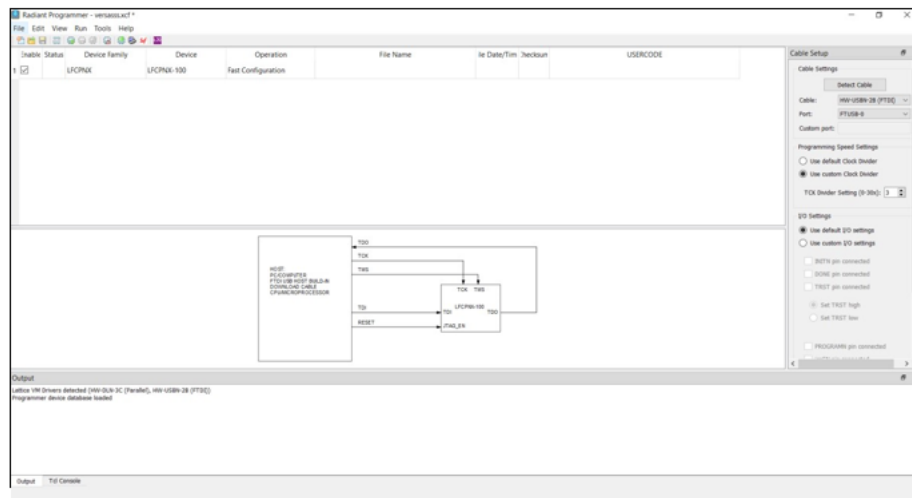

Figure 7 Radiant Programmer Opened from Windows Start Menu
5. If the settings you see are not the same as those shown in Figure 7, manually make changes and make settings (device family, device, and so on) the same as those shown in Figure 7.